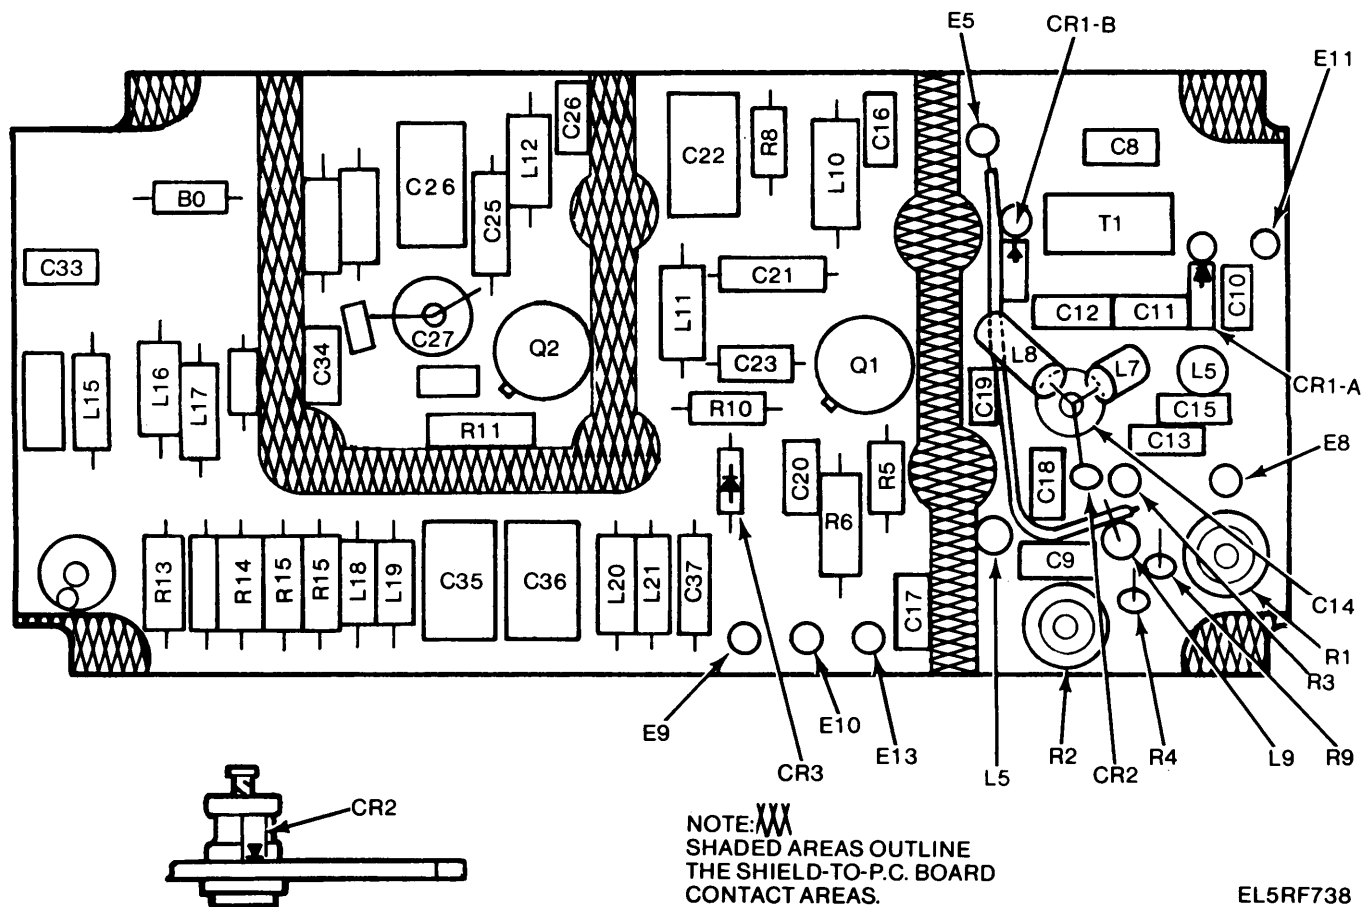

Figure 3-105. Amplifier-Frequency Multiplier 5TR1A4A1, Parts Location.
1. No output (para. *b* (2) above).
- a. Check +28 Vdc supply at L10, L12, and L16; investigate any abnormal indication; replace components as required (fig. 3-105).